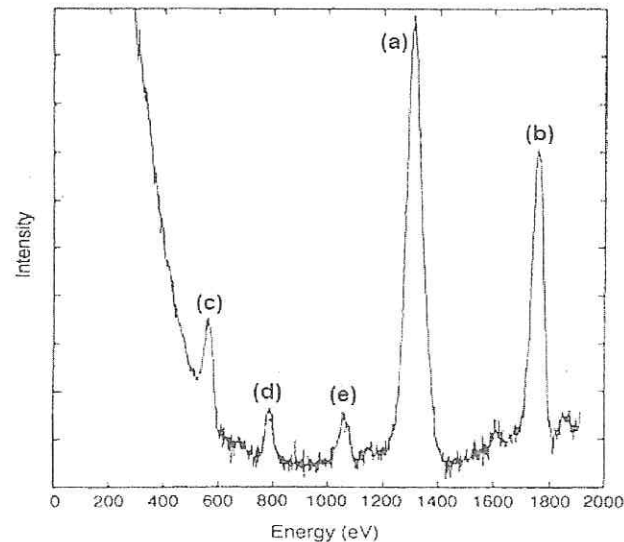

Figure Q3(b)
- (c) **Figure Q3(c)** shows the secondary ion mass spectroscopy (SIMS) depth profile of a trilayer structure deposited on steel (iron-carbon alloy) substrate. Analyze the spectra in terms of the constituent materials and the thickness of each layer.